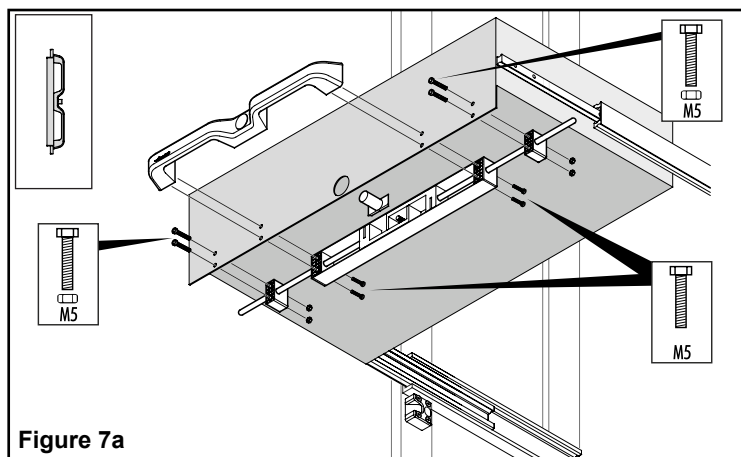

Figure 7a
1. Using M5 fasteners, install the mechanism, push button, and double handle to front of drawer as shown in **Figure 7a**.